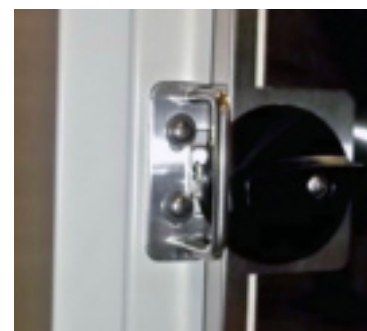

Figure 6-17. Inner Door Latch
- Open the inner door and remove inner door latch from cabinet (Figure 6-17).